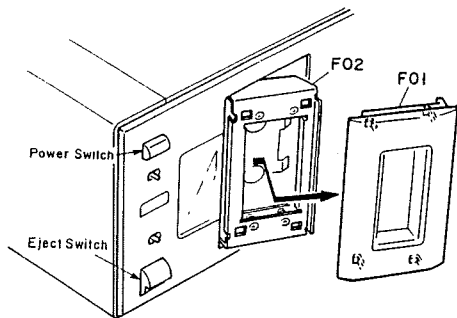

Fig. 2.3.1
Refer to Figs. 2.3.1 and 2.3.2.
- (1) Turn the power ON and press the EJECT button.
- (2) Remove F01 (Cassette Lid Ass'y) in the direction of the arrow. See Fig. 2.3.1.